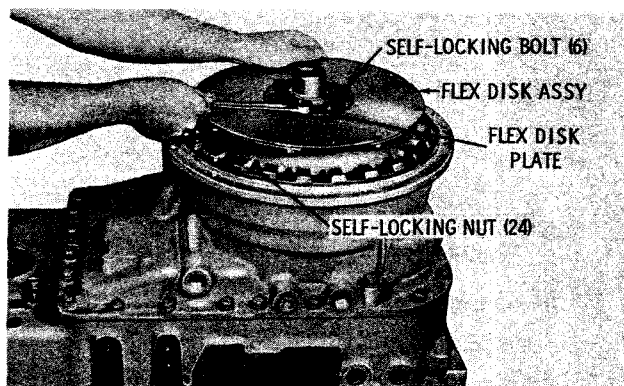

Fig. 5-7. Removing flex disk bolts
(1) Remove the six self-locking bolts and plate that retain the flex disk assembly (fig. 5-7).
(2) Remove the flex disk plate and flex disk assembly consisting of three flex disks and a disk and washer assembly (fig. 5-7).